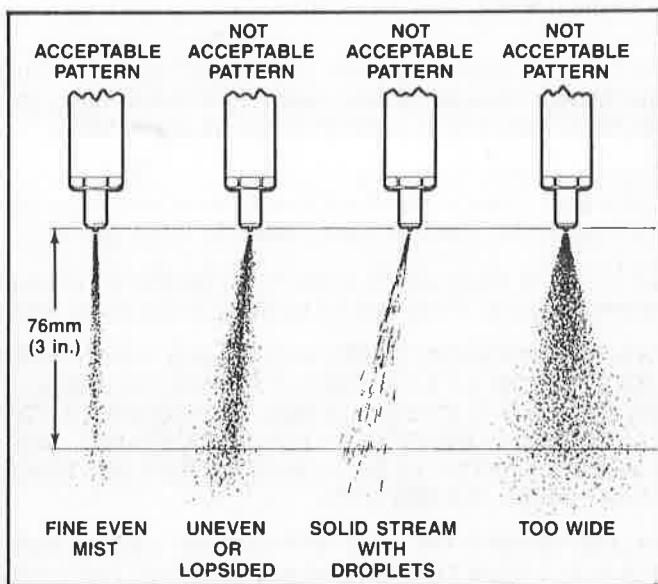

Figure 47 Injection Nozzle Spray Pattern
7. Check spray pattern. Operate test pump in smooth, even strokes and observe pattern of fluid spraying from nozzle tip. Only the first 76mm (3 inches) of spray from the end of the nozzle is important. The spray should be finely atomized in an even, straight pattern. The nozzle is defective if the spray pattern is lopsided (not concentric with nozzle axis) or uneven, or if fuel comes out in droplets or in a solid stream (Fig. 47). If nozzle fails spray pattern test, clean nozzle as described in Step 8 and repeat test.